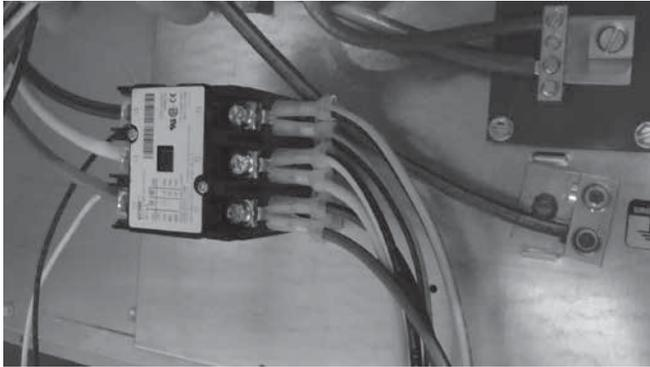

Figure 7. Element Line Voltage Connections
- Attach Black (T1), Yellow (T2), and Red (T3) of contactor to circuit breaker L1, L2, and L3 as shown in Figure 7 or attach directly to 3 pole terminal block L1, L2, and L3 if no breaker is used.